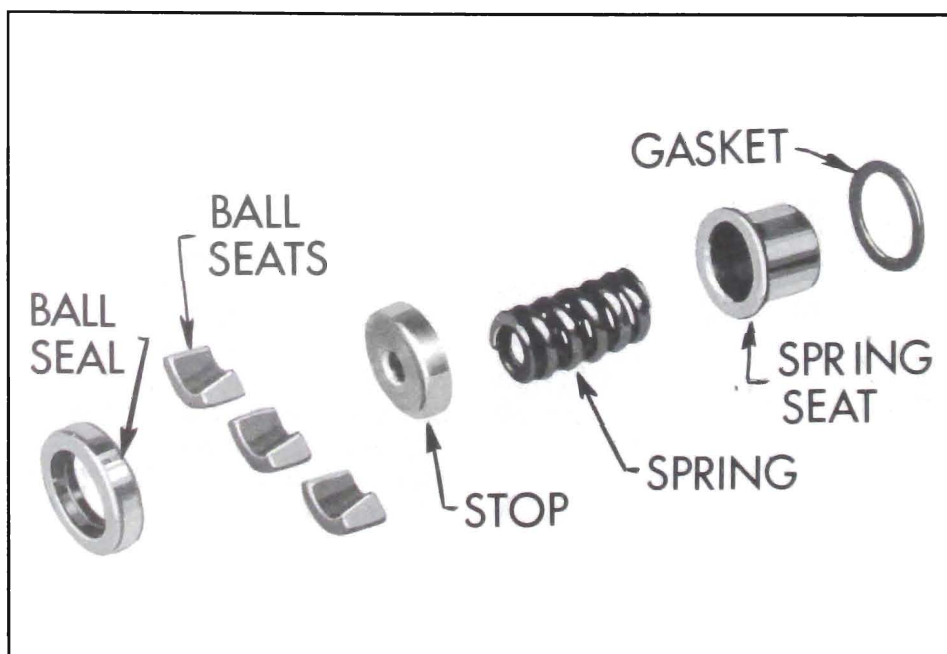

Figure 6-69—Ball Seat Stop - Exploded View
2. Install spring seat gasket. See Figure 6-69.